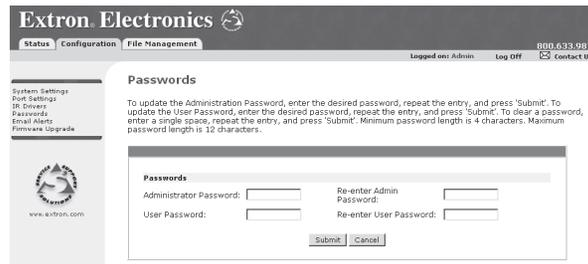

Figure 4-14 — Web server Passwords screen
1. Click the Passwords link on the menu (on the left side of the window) and the Passwords screen (figure 4-14) is displayed.